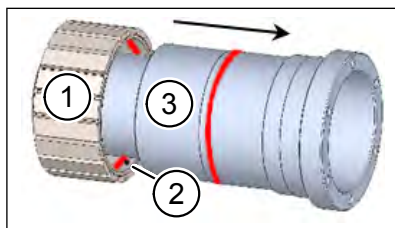

Fig. 15: Pushing the rotor onto the shaft
- ▶ Align the rotor so that the indexing hole (item 2 in Fig. 15) points towards the shaft (see Fig. 15).
- ▶ Push the rotor (item 1 in Fig. 15) onto the shaft (item 3 in Fig. 15) and gently push it as far as it will go.